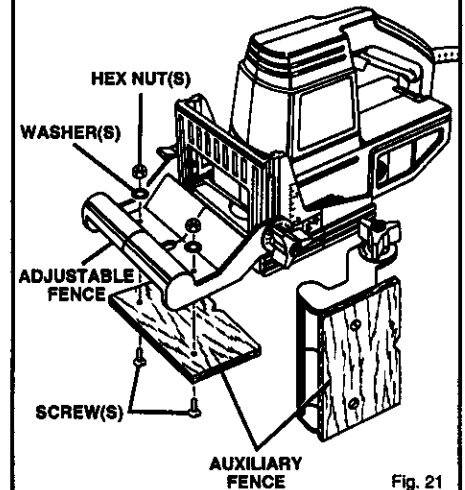

Fig. 21
4. Place auxiliary fence against bottom of adjustable fence. See Figure 21.
7. Secure auxiliary fence to adjustable fence with 3/16 in. x 3/4 in. flat head machine screws, washers, and hex nuts as shown in figure 21.